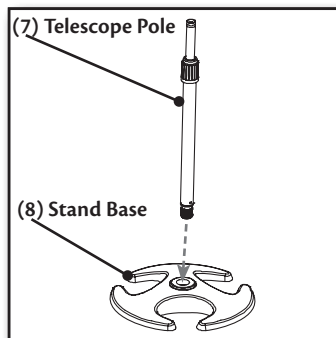

Figure 7.
1. Slide the Telescope Rod (7) into the top of the Stand Base (8) of the stand fan. The pole is notched so it will only fit into the base 1 way. **Figure 7.**